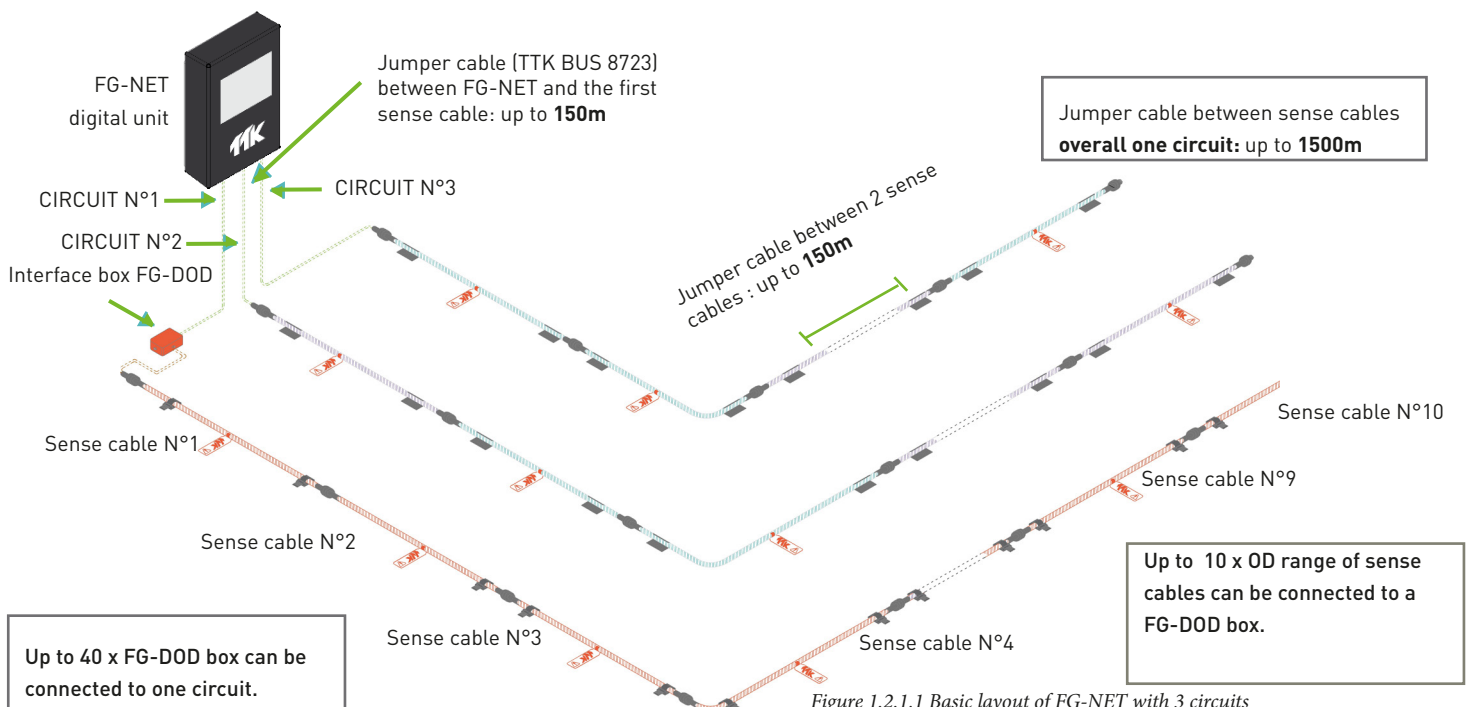

Figure 1.2.1.1 Basic layout of FG-NET with 3 circuits
- End termination and accessories same as figure 1.2.1.